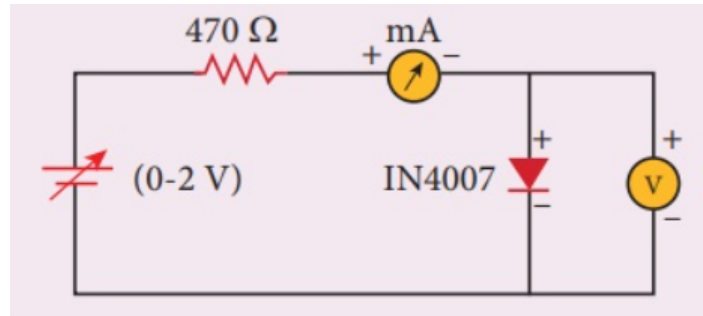

Figure 6.4.1: Circuit diagram
1. Connect the circuit as shown in Fig. 6.4.1.